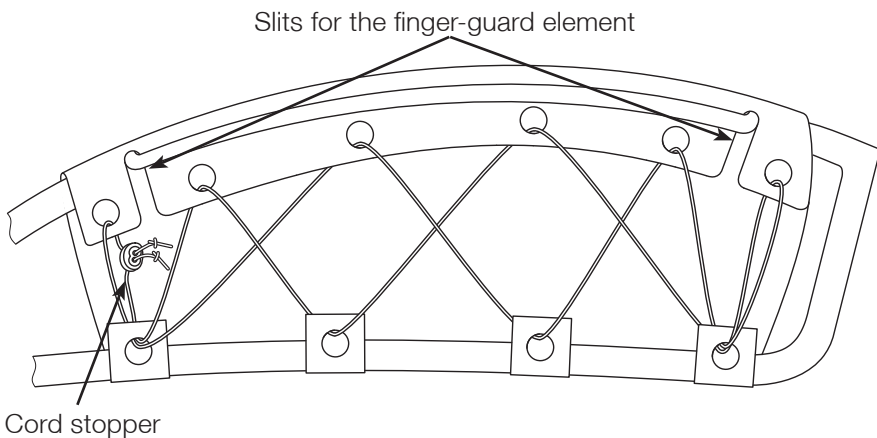

Fig. 11
2. Pull the rubber cord through the eyelets and connect the upper and lower eyelets. Begin at the back end of the buggy and pull both cord ends at the front through the cord stopper. (Fig. 11)